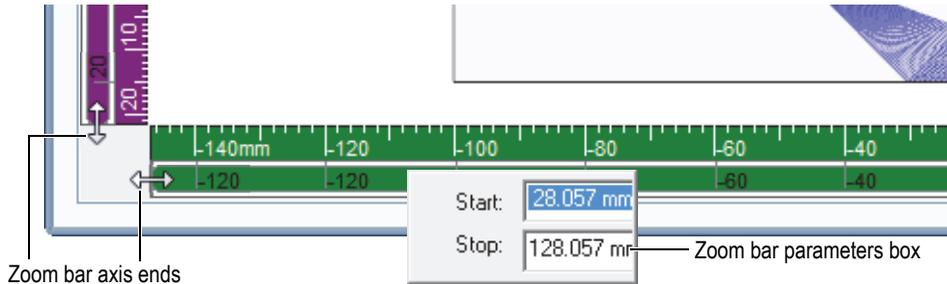

Figure 4-21 Zoom bar controls in RayTracing view
- ◆ Drag one end of an axis' zoom bar to interactively change the zoom factor of the RayTracing view along that axis (see Figure 4-21 on page 53).
- ◆ Double-click an axis zoom bar to reset the scale ratio of the RayTracing view to 1:1 along that axis (see Figure 4-21 on page 53).